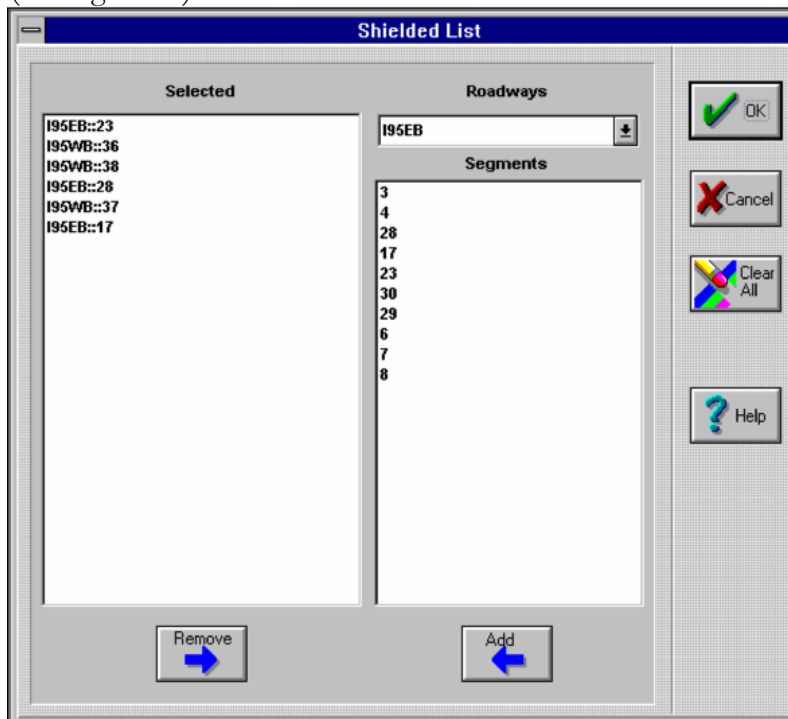

Figure 37. Structure barriers: Edit dialog.
3. For the desired on-structure segment, click . TNM will display the edit dialog for structure barriers (see Figure 37).